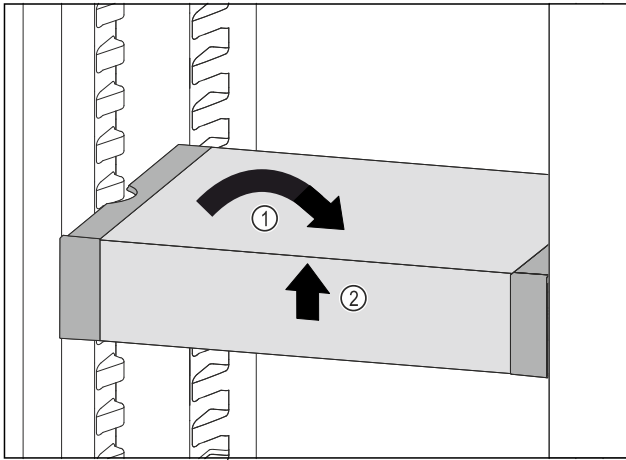

Fig. 136
- ▶ Set VarioSafe straight. Fig. 136 (1)
- ▶ Lift VarioSafe at the front. Fig. 136 (2)